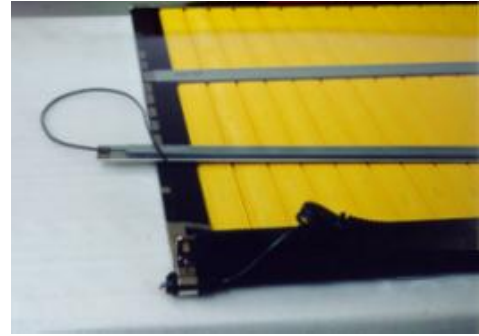
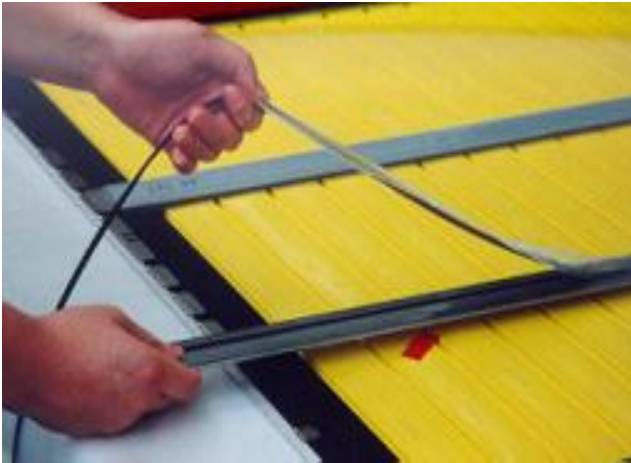

Figure 14 - Maintenance / Contact cleaning II
Figure 21 - Maintenance - Contact replacement V
- Turn up contact system as per I Figure 14 / page 12).
- Remove complete plastic sheath (12).
- Remove fixing clip (17).
- Remove transparent polyester (16).
- Take out contact strip (11) as per Figure 21.
- Old touchpad: unstuck contact strip (11).
- Insert new contact strip (11) on the profile (13).
- Old touchpad: stick contact strip (11) on the profile (13). Use fresh, double-sided sticker (paragraph 5.2.5).
| Figure 21 - Maintenance - Contact replacement V | 14 |